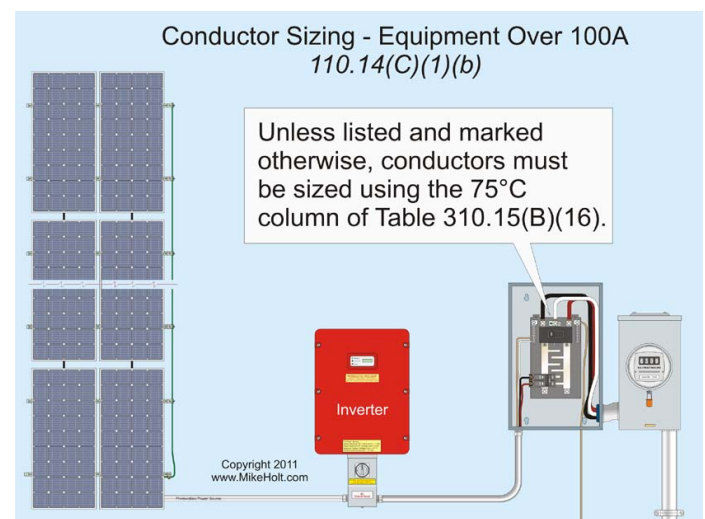

Figure 110-16
- (1) Conductors must be sized using the 75°C temperature column of Table 310.15(B)(16). **Figure 110-16**